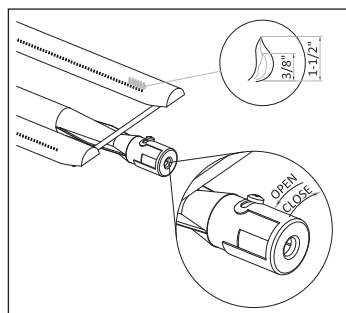

Figure 13
- If the flame is noisy (sounds like a torch) and tends to lift away from the burner, indicating too much air, turn the air shutter counter-clockwise (Figure 13).